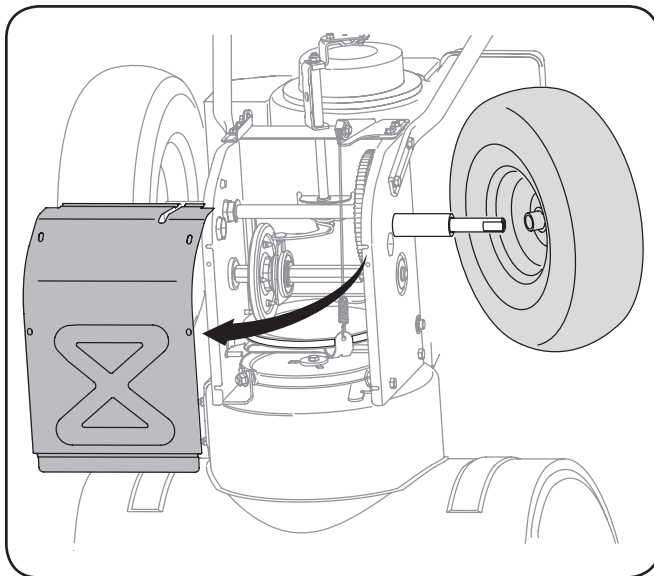

Figure 7-7
4. Remove the frame cover from the underside of the snow thrower by removing the self-tapping screws which secure it. Remove the right-hand wheel by removing the screw and bell washer which secure it to the axle. See Figure 7-7.